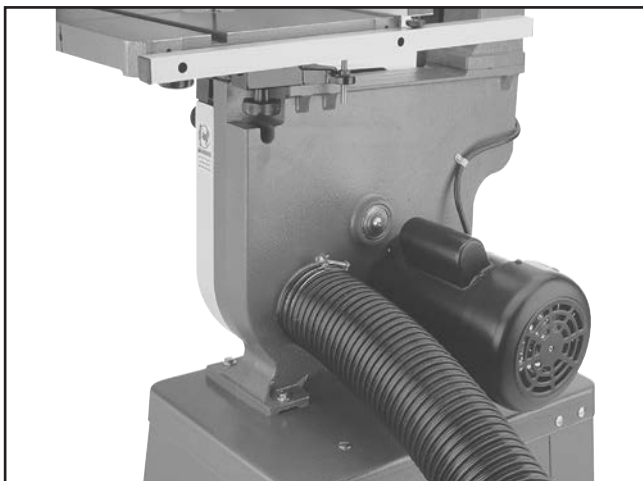

Figure 28. Example of attached dust hose.
1. Fit a 4" dust hose over the dust port, as shown in **Figure 28**, and secure in place with a hose clamp.